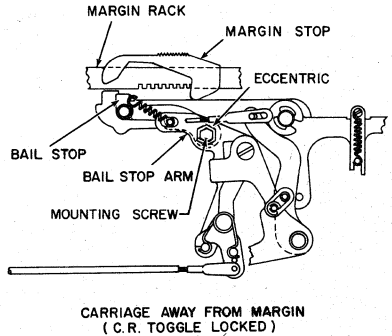

Figure 46
22. With the carriage in the same position (toggle locked, power off and the carriage away from the margin stop), loosen the locking nut and adjust the eccentric on the bail stop arm so that the bail stop does not contact the underside of the margin rack. The high point of the eccentric should be to the right. Tighten the mounting screw (Figure 46).